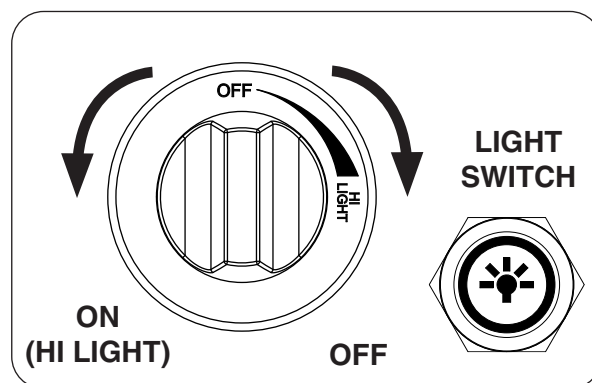

Fig. 51-2
- 4. **Once the match is burning and in position**, depress the gas control knob and turn it counter-clockwise to the **HI LIGHT** position (see Fig. 51-2). Your burner should light.
To extinguish your gas burner, depress the gas control knob and turn it clockwise to the **OFF** position (see Fig. 51-2). Be sure the control knob is turned fully off to avoid any gas leakage.
- 1. Push light switch in to turn on the lights. The light switch will light up when on. See Fig. 51-2.